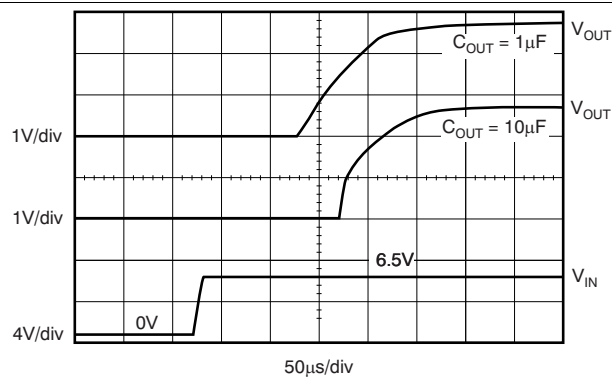

Figure 29. Turn-On Response
Note that for fastest startup, apply V_{IN} first, then the enable pin (EN) driven high. If EN is tied to IN, startup is somewhat slower. Refer to Figure 29 in *Typical Characteristics*. The quick-start switch is closed for approximately 135 μ s. To ensure that C_{NR} is fully charged during the quick-start time, use a 0.01- μ F or smaller capacitor.